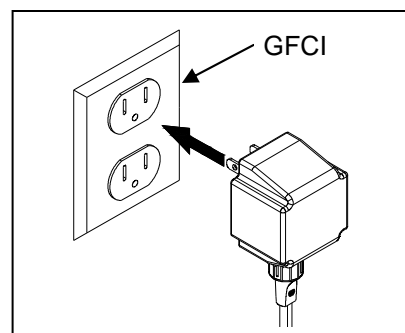

Fig. 17
17. Plug the transformer into a properly grounded electrical outlet. Fig. 17